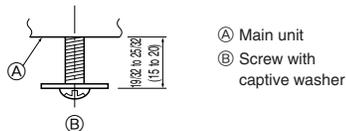
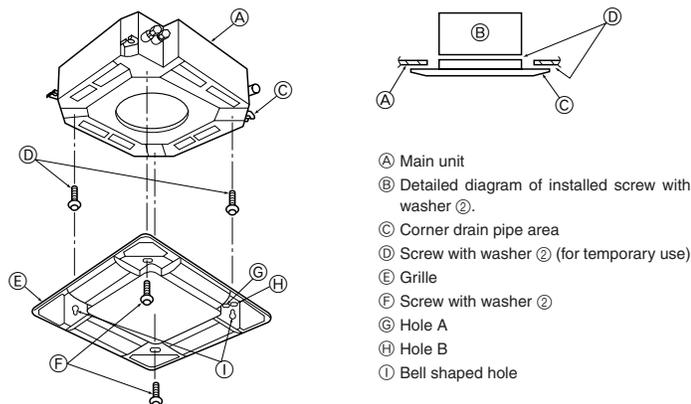

Fig. 8-5
Fig. 8-6
8.4.1. Preparations (Fig. 8-5)
- Install the two enclosed screws with washer ② in the main unit (at the corner drain pipe area and at the opposite corner) as shown in the diagram.
8.4.2. Temporary installation of the grille (Fig. 8-6)